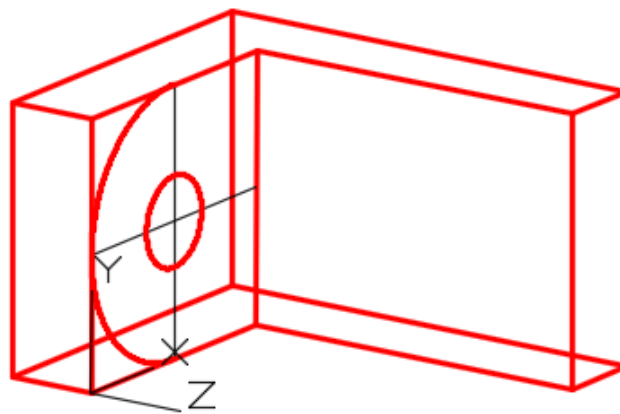

Figure Step 10
Step 10 Draw the necessary construction lines using the OFFSET command. Change their layer to layer: Construction. Draw the arc and the circle. (Figure Step 10)